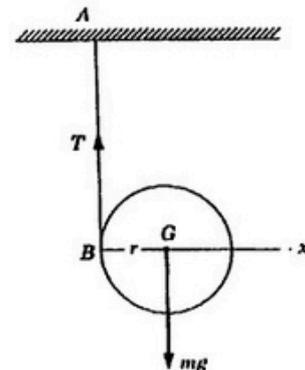

Fig.10.
- Q9 A right circular cylinder of mass 10 kg and radius 15 cm is suspended from a cord that is wound around its circumference. If the cylinder is allowed to fall freely, find the acceleration of its mass centre G and the tension in the cord as shown in Fig.10. (10)